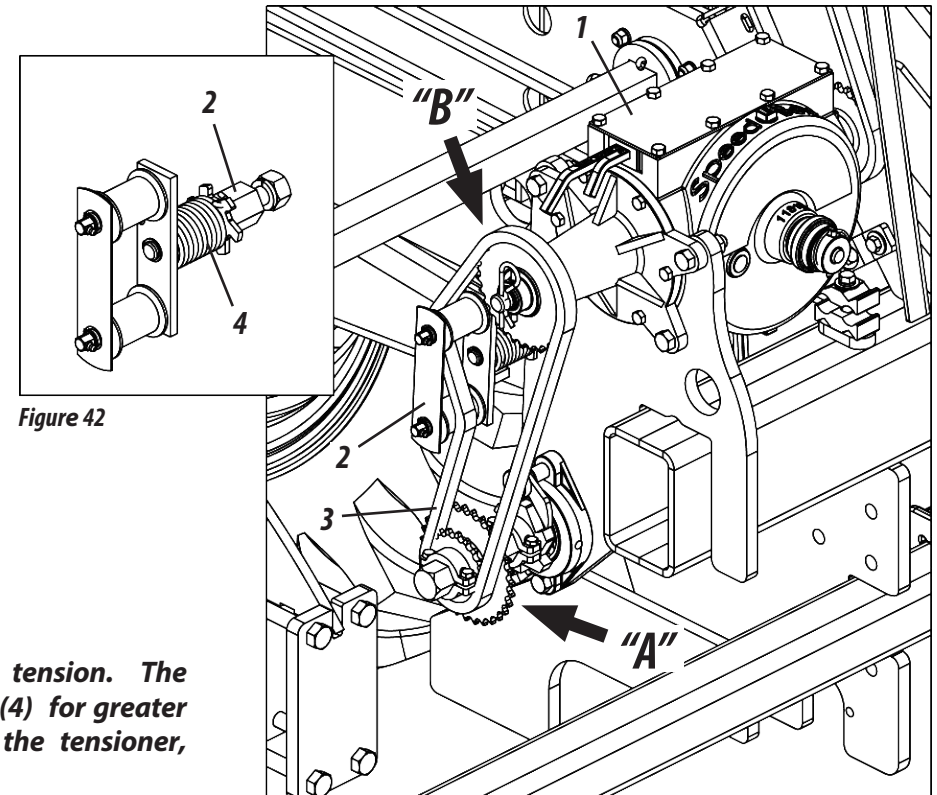

Figure 42
The seed adjustment is made by the *Speed Box* (1). For more adjustments, reverse the direction of the chain of the motor gears. **"A"** and moved **"B"**, as shown in figures 42. To reverse the direction of the chain on the gears, proceed as follows:
- 1- First, turn the tensioner (2) removing the tension of the chain (3).
- 2- Then reverse the chain (3) as work requires.
- 3- Then, release the tensioner (2) releasing it, returning the tension in the chain (3).